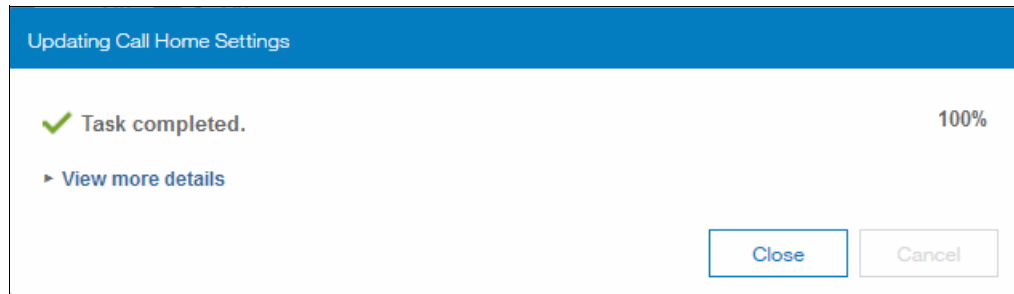

Figure 6-97 Updating call home settings status pane
6. The Updating Call Home Settings pane is displayed (Figure 6-97).